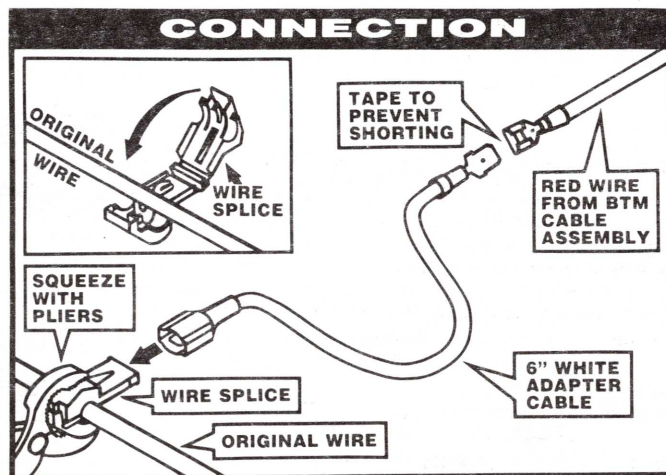

Figure 4
5. Install the T-Tap Splice Connector onto the **PINK** wire and plug the 6" White adapter cable into the Tap Splice Connector (see Figure 4). Plug the MSD BTM Cable Assembly **RED** wire into the 6" White adapter (tape to prevent shorting).